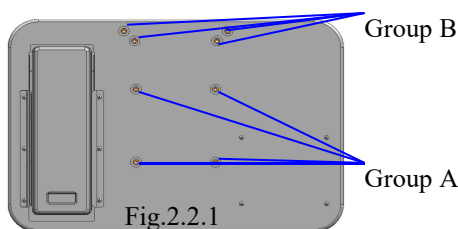

Fig.2.2.1
1. Before attaching the wooden tabletop on to the power table, please screw of f four M6x20mm bolts with the spanner . (Fig.2.2.1 Group A) .
5. Remove the four screws of B Team with the screw driver, take out the chin-rest from carton, ensure the four hole on chin-rest aim the screw hole of B team(Fig.2.2.1 Group B), re-tighten the previously removed screw and make chin-rest connect with wooden tabletop .(Fig. 2.2.4)